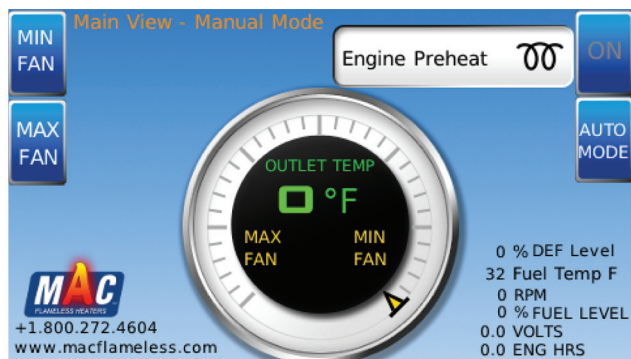

Figure 3-1. Engine Preheat
2. Turn ignition key to ON. The screen displays "Engine Preheat" (**Figure 3-1**).